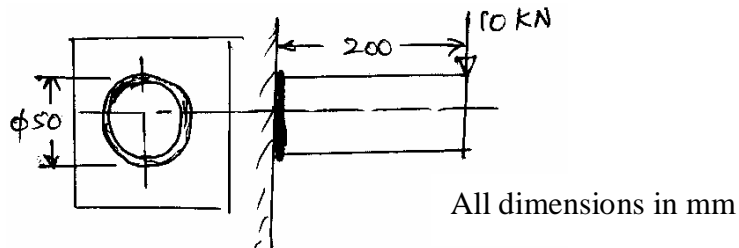

Fig. Q7 (b)
- b. A circular shaft 50 mm in diameter is welded to a support by means of a fillet weld and loaded as shown in Fig. Q7 (b). Determine the size of weld if the permissible shear stress in the weld is limited to 100 MPa. (10 Marks)